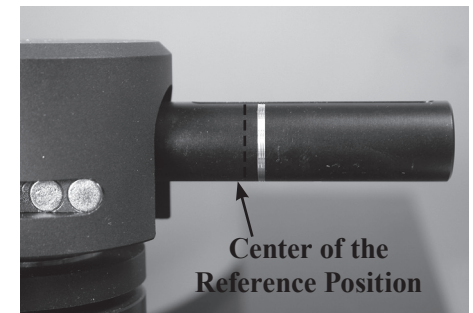

Figure 16
12. Position the Counterweight on the Tone Arm so the front surface of the Counterweight is in the center of the reference position marking on the surface at the rear of the Tone Arm. Tighten the knurled knob to secure the position of the Counterweight. Refer to figures 16, 17 below and 18 on the next page.